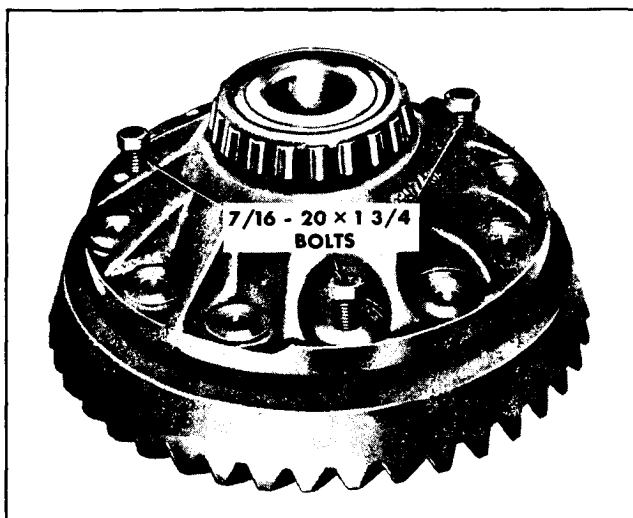

Figure 50—Installing Ring Gear to Case
1. After making certain that, mating surfaces of case and ring gear are clean and free of burrs, install three (3) 7/16-20 x 1-3/4 bolts as shown in Figure 50 to correctly position ring gear.